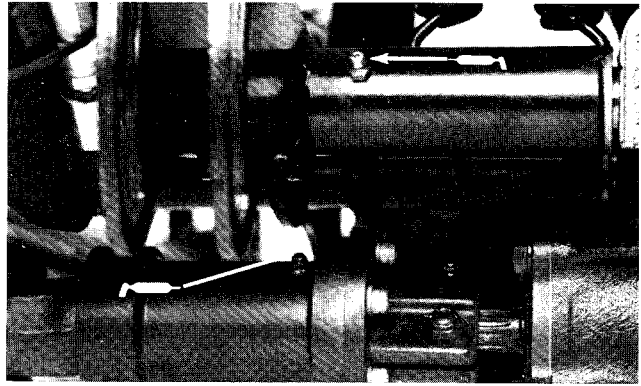

Figure 43
Engine Drive shaft (2), (Fig. 41); Cutting unit carrier frame and pivot (2 ea.), (Fig. 42); Lift arm pivots (5), Drive shaft clutch (1) (Fig. 43); Rear axle tie rod (2), Steering cylinder ball joints (2), Rear axle pivot (1) (Fig. 42); Traction control linkage at transmission (1), Drive shaft support bearing (1), Rear axle drive shaft (3) (Fig. 45), Brake pedal (1) (Fig. 46) and Lift cylinders (5) (Fig. 47).